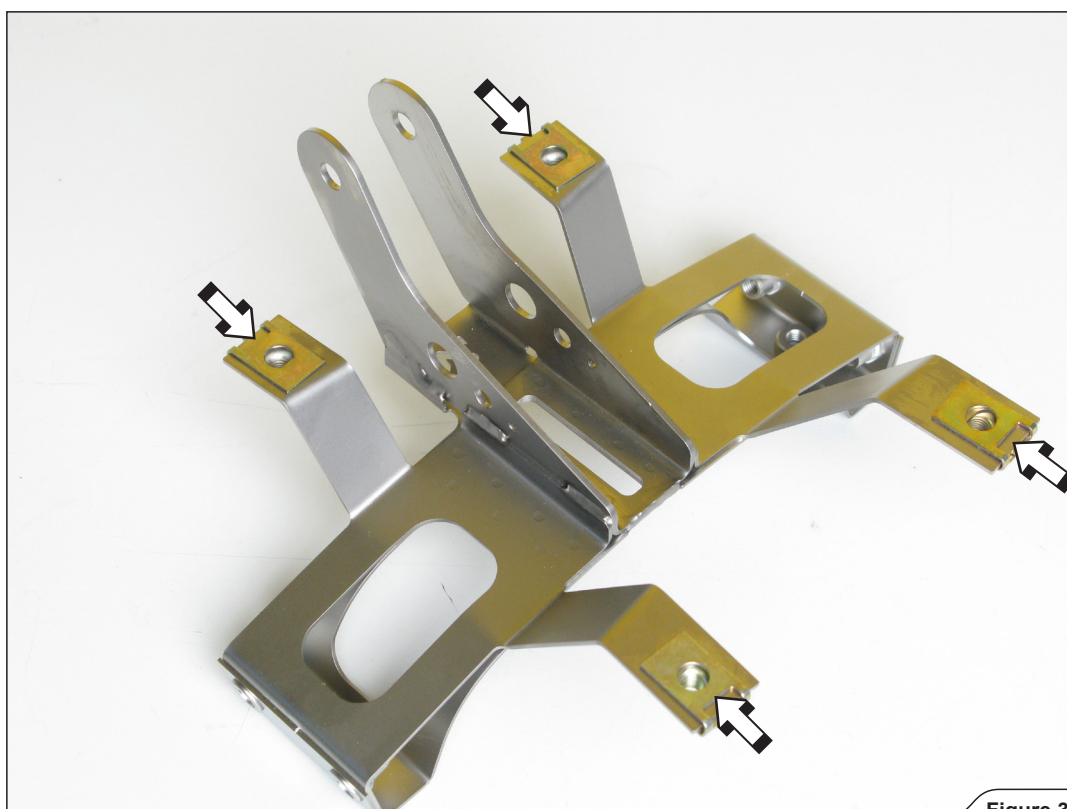

Figure 30
9. Attach the four M6 press on nuts onto the Akrapovič muffler bracket (Figure 30).